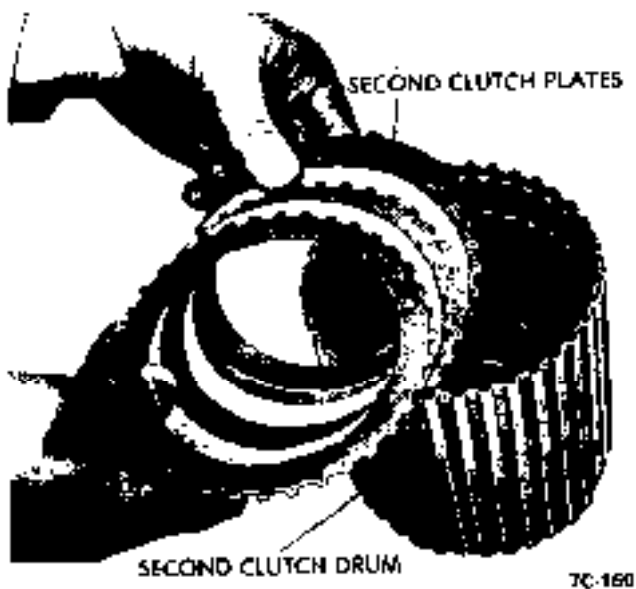

Figure 7C-160
6. Remove second clutch assembly to third clutch assembly bronze thrust washer. See Figure 7C-161.